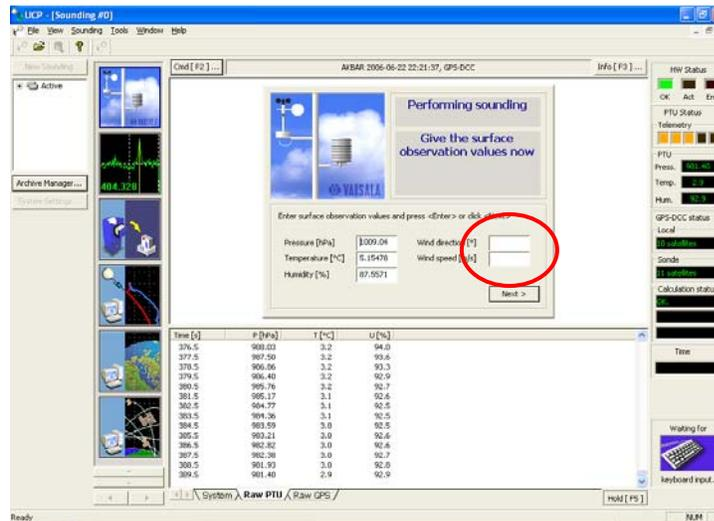

Figure 16
50. When you get back to the computer, you should see the following screen (Figure 16):